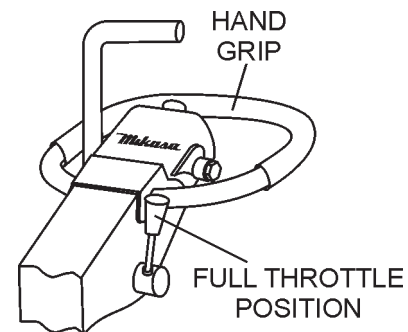

Figure 21. Throttle Lever (Fast)
- Grasp the compactor's hand grip (Figure 21), and move the engine throttle lever (Figure 21) quickly to the **fast** position.